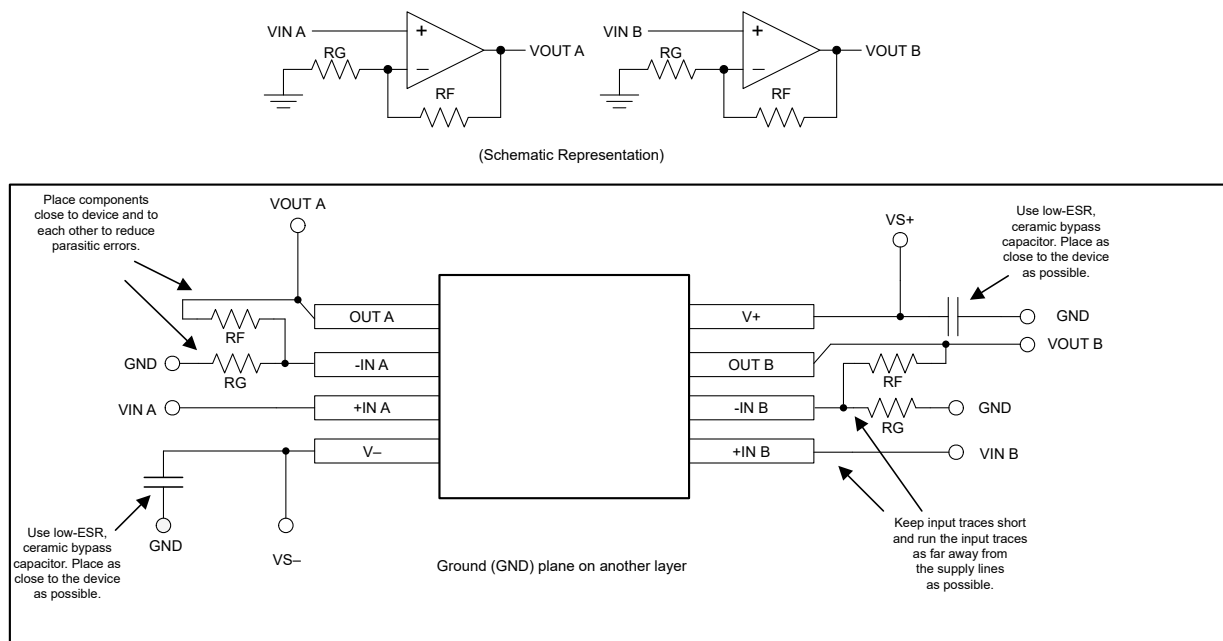

图 9-8. Layout Recommendation for TLV2365 SOIC Package
- Place the external components as close to the device as possible. 图 9-8 shows that keeping  $R_F$  and  $R_G$  close to the inverting input minimizes parasitic capacitance.